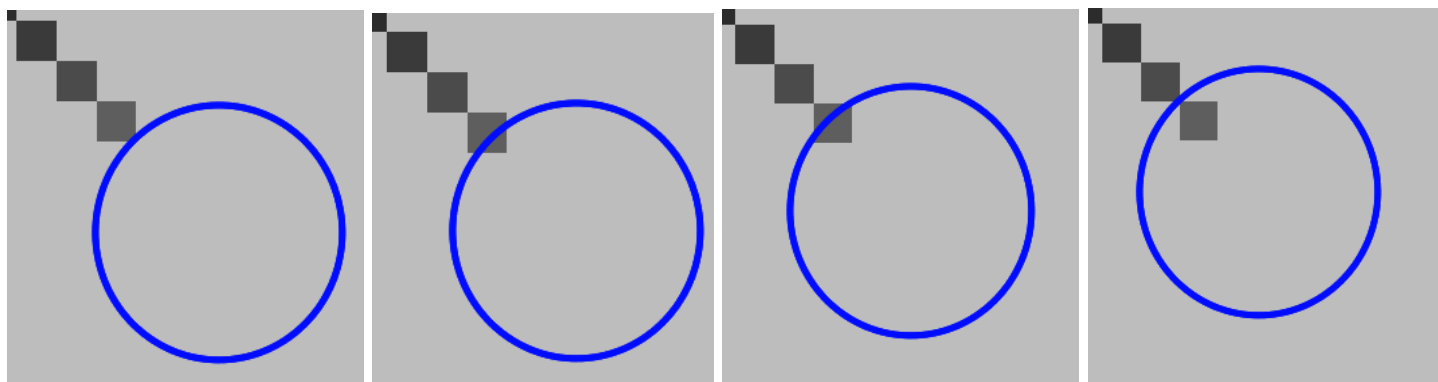

Figure 3: An illustration of different levels of hot voxel inclusion needed to increase the ROI-max value. From left to right:
(2) Drag the ROI from the center of the star pattern in a line toward the NW test-line.
(3) Monitor the ROI-max value as you drag the ROI. Note the point at which the ROI-max value changes. Record the increased ROI-max value in the space on line **15**.
(4) Estimate the amount of hot voxel inclusion that was needed to increase the ROI-max value. Use the illustration in Figure 3 as a guide.
(5) Record your estimate in box **15** for the NW test line.
(6) Repeat steps 1-5 for the eight test-lines, each time moving the ROI in a line from the center of the star-pattern. Record your answers on **Lines 16 – 22**.